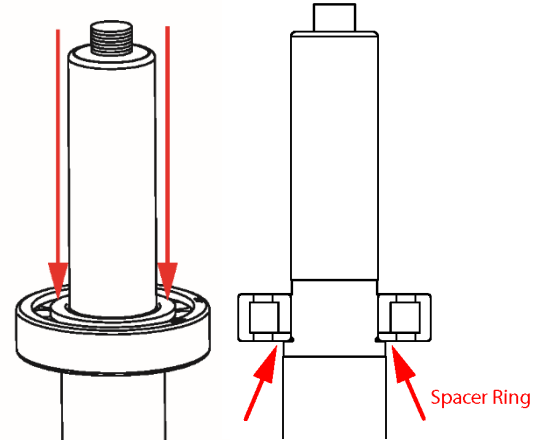

Figure 10-1: Radial bearing install
3. Heat the cylinder roller bearing (320B) and spacer to 212° F (235°F maximum) and slide the bearing squarely against the shoulder. Remember to place the spacer ring of the bearing against the shoulder Figure 10-1. Use of oil bath or induction heater is recommended.